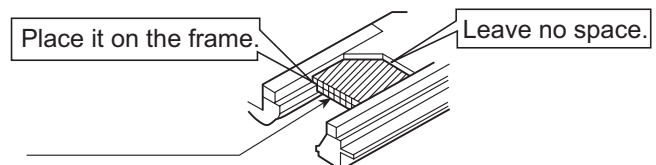
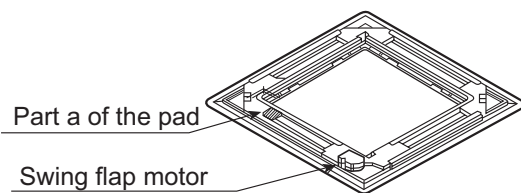

Fig. 6
Fig. 5
- Install part a of the pad on the place shown in Fig. 5. Refer to Fig. 6.